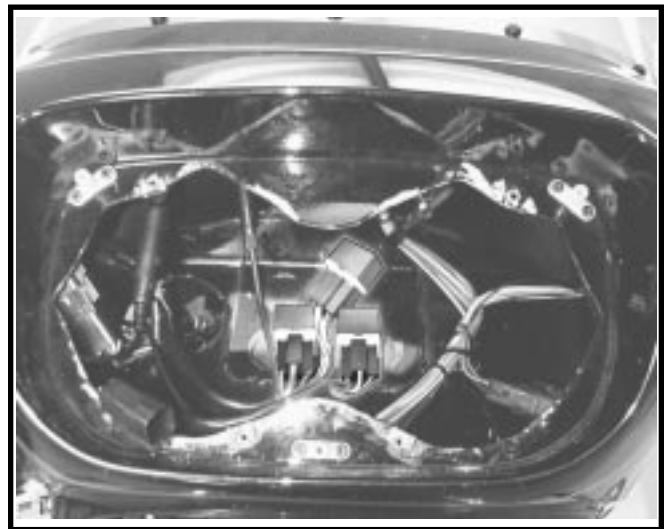

Figure 6.
14. See Figure 6. Arrange relays as follows: